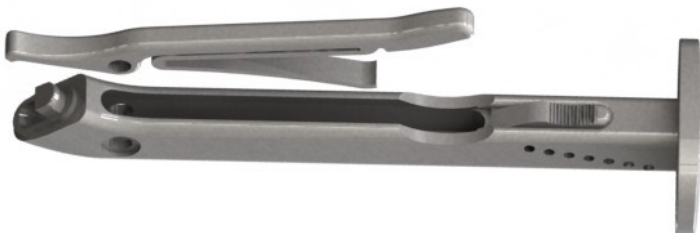

Fig. 3
3) Take off the spring of the rasp holder (Fig. 3)